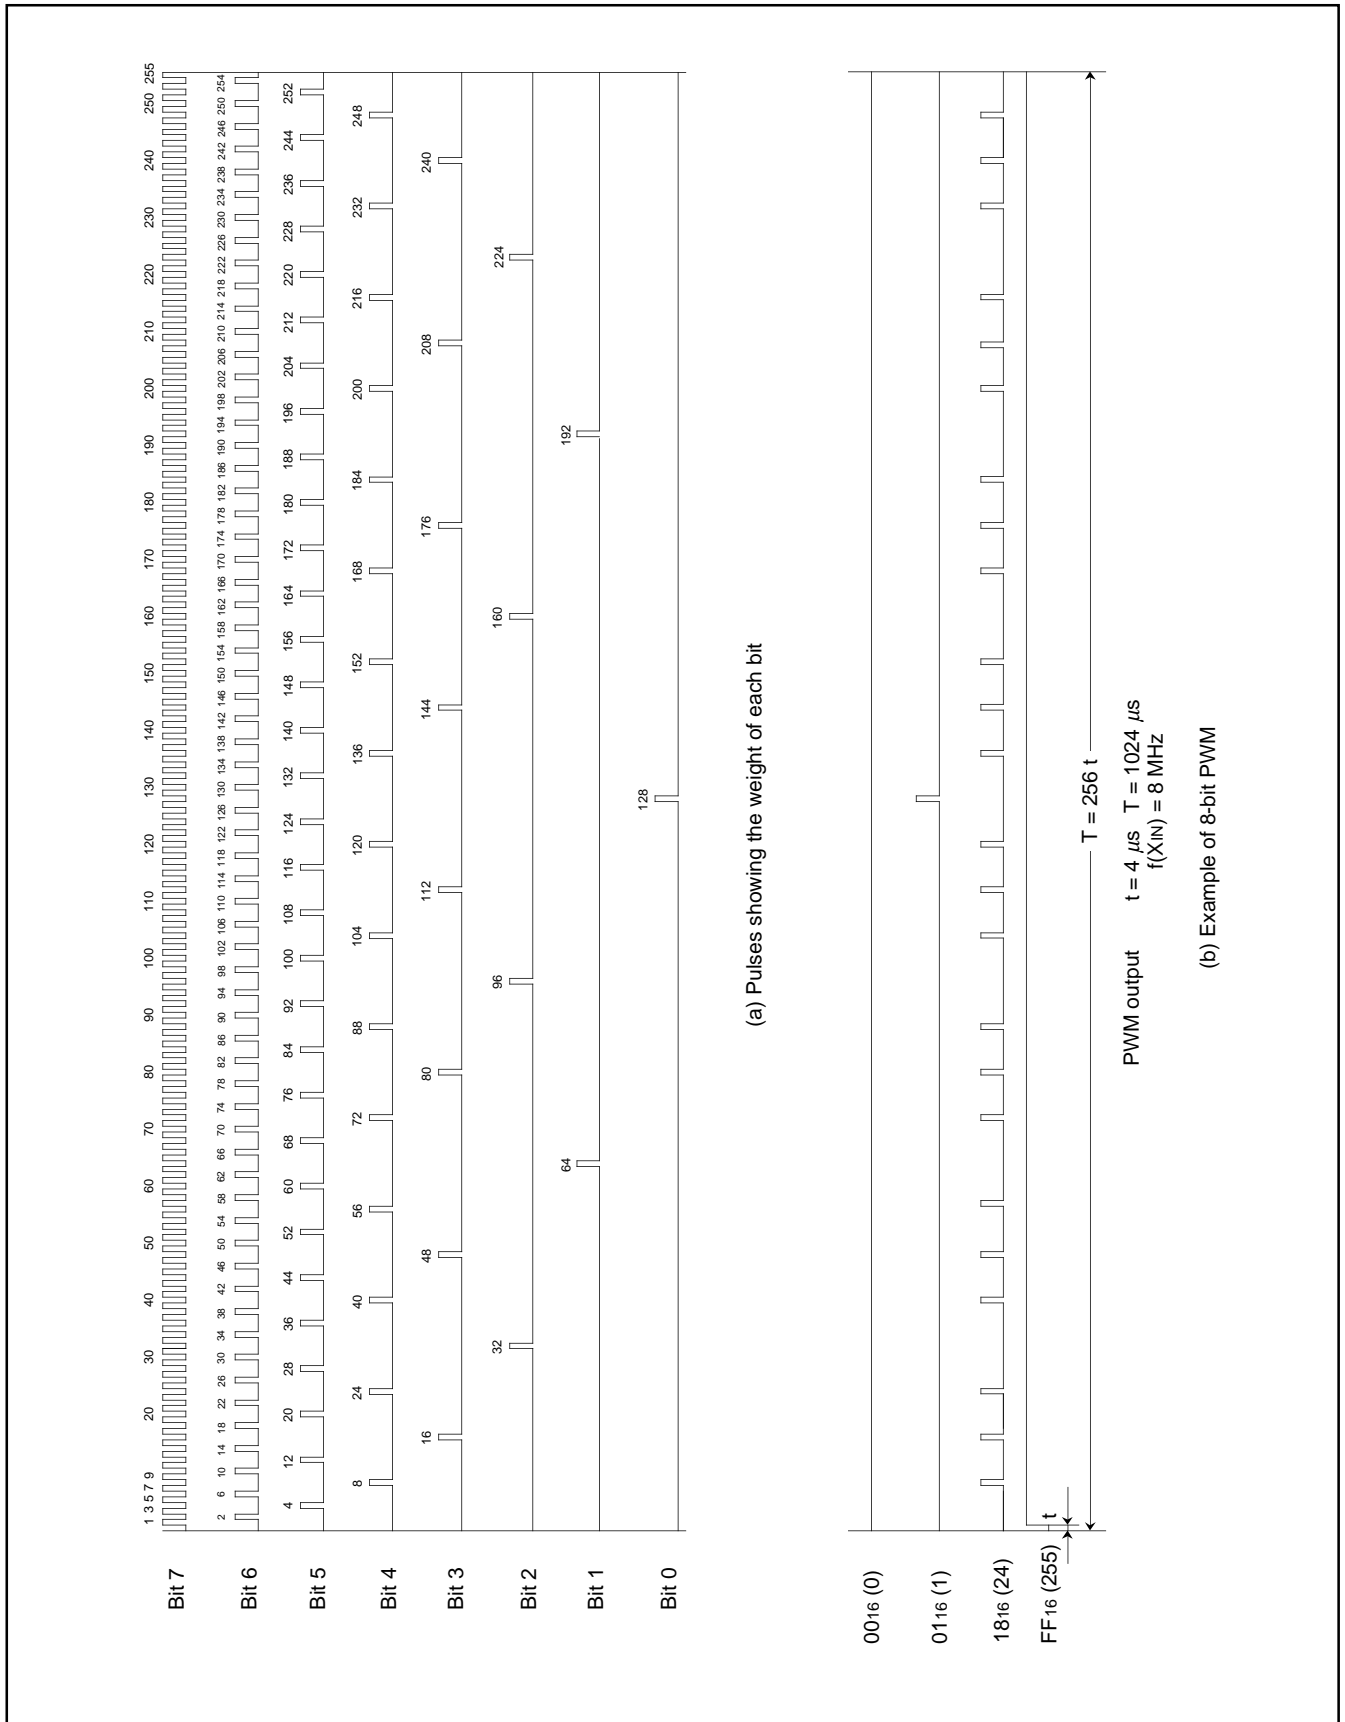

Fig. 36. 8-bit PWM Timing
Figure 36 shows the 8-bit PWM timing. One cycle (T) is composed of 256 (2^8) segments. The 8 kinds of pulses, relative to the weight of each bit (bits 0 to 7), are output inside the circuit during 1 cycle. Refer to Figure 36 (a). The 8-bit PWM outputs waveform which is the logical sum (OR) of pulses corresponding to the contents of bits 0 to 7 of the 8-bit PWM register. Several examples are shown in
Figure 36 (b). 256 kinds of output (HIGH area: 0/256 to 255/256) are selected by changing the contents of the PWM register. A length of entirely HIGH output cannot be output, i.e. 256/256.